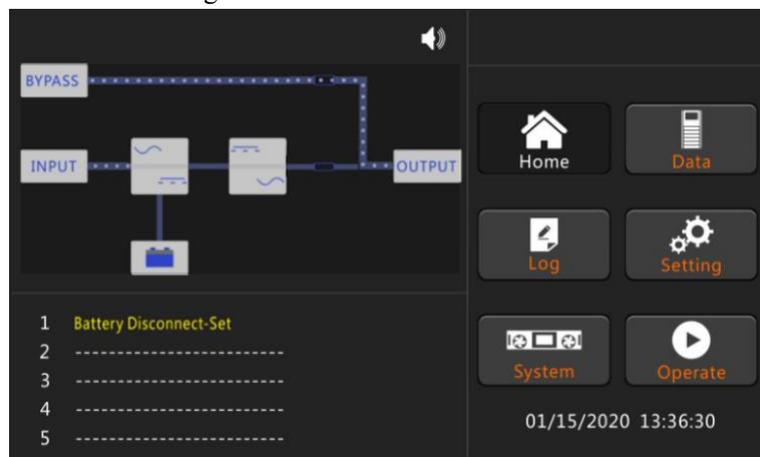

Figure 4-2 Bypass starting
- 4) After about 30S, the rectifier start is completed, the bypass static switch is on, and the bypass indicator flashes. As shown in Figure 4-2.